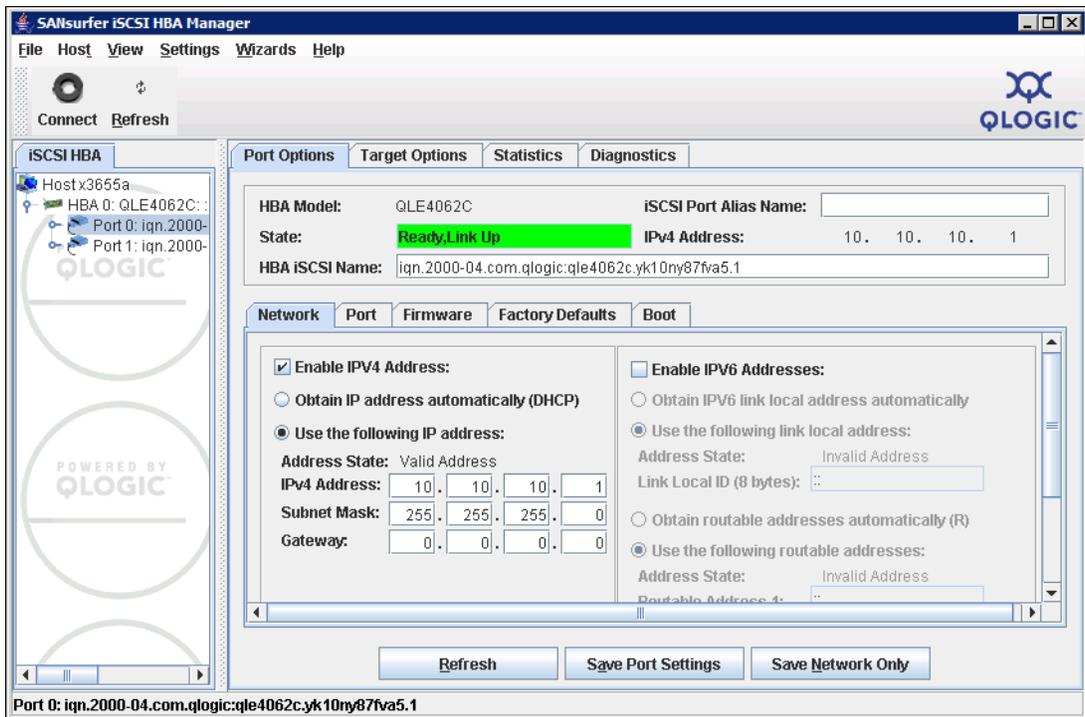

Figure 3-32 Setting iSCSI port
- Configure your iSCSI adapter port with the network settings already planned. On the SANsurfer iSCSI HBA Manager main window HBA tree, select the HBA port of the card to configure. On the Port Options page, click the **Network** tab. See Figure 3-32.